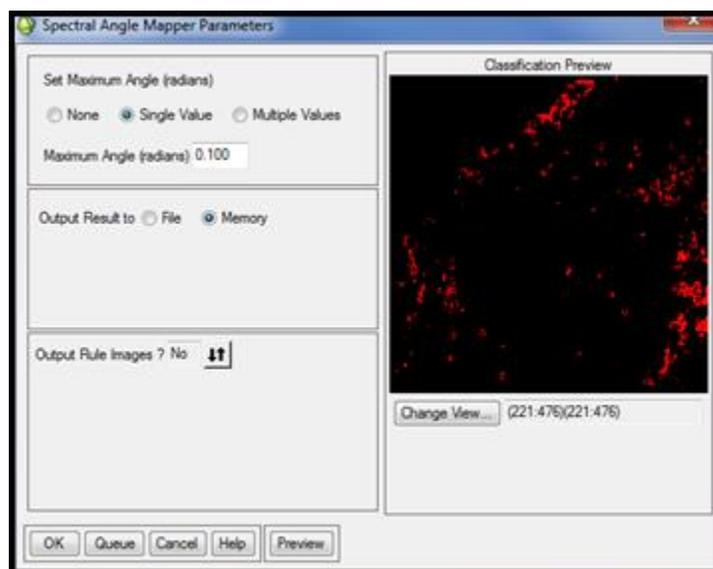

Figure 5.2n. Spectral Angle Mapper Parameters window with the preview window
- After you click Preview, the Preview window is added to the SAM Parameter window (Figure 5.2n). The overview window ONLY shows the pixels of a section of the entire image that are classified by the SAM. Unclassified portions of the sample will not be shown.